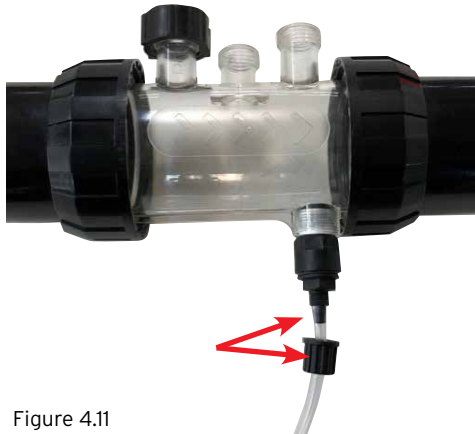

Figure 4.11
- Attach the other end of the acid injection point to the acid (delivery) feeder tubing and tighten the nut on the acid injection point (refer Figure 4.11).